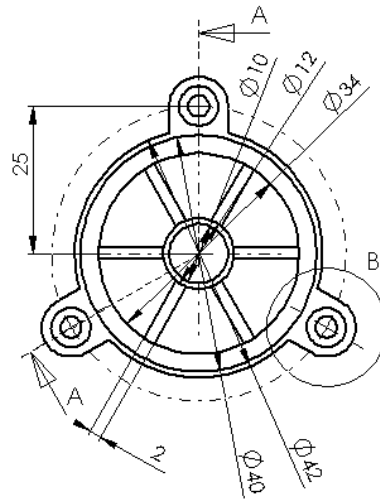

Figure 13-34 The dimensions generated using the *Insert Model Items* tool
- Generate and arrange the dimensions and delete the unwanted dimensions, refer to Figures 13-34 and 13-35.
6. Select the dimension one by one and drag them to the desired location, refer to Figure 13-34.